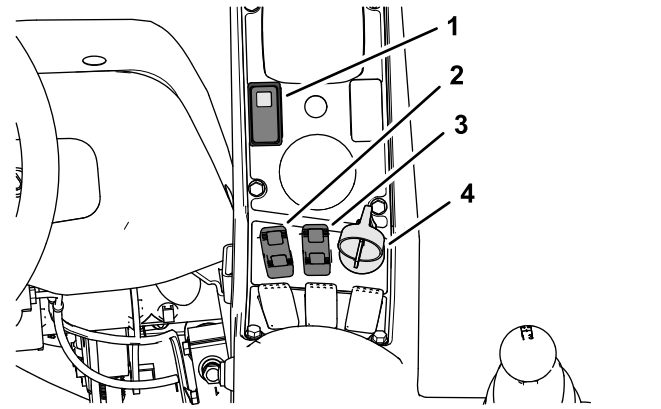
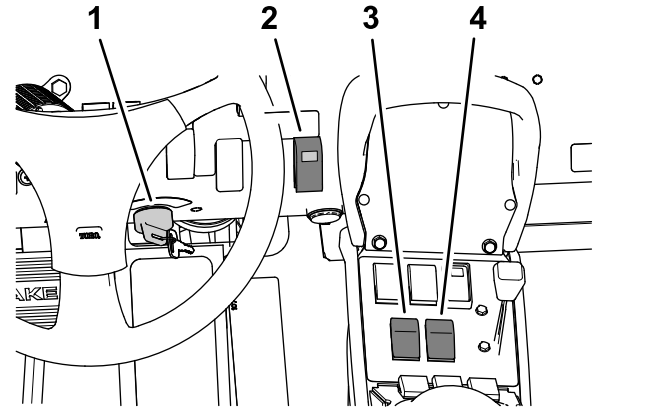
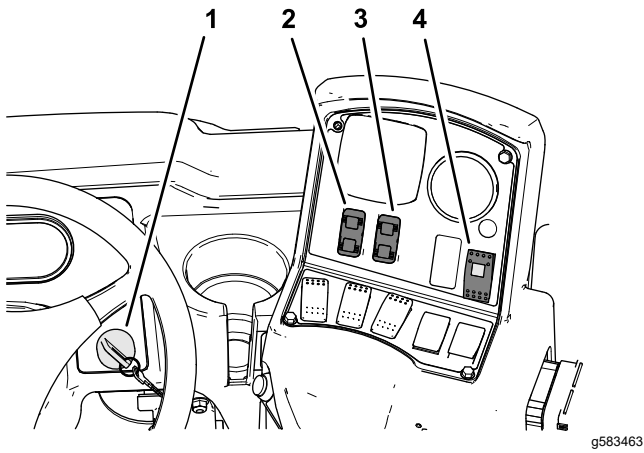

Figure 28
Figure 29
Figure 30
4. Press the sonic-boom switch to the ON position (Figure 28, Figure 29, or Figure 30).